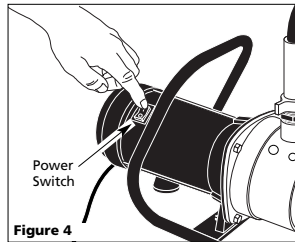

Figure 4
- Turn pump switch to the 'On' position (see Figure 4). If the pump does not pump water within 10 minutes, turn off pump and refill with clean water. If the pump does